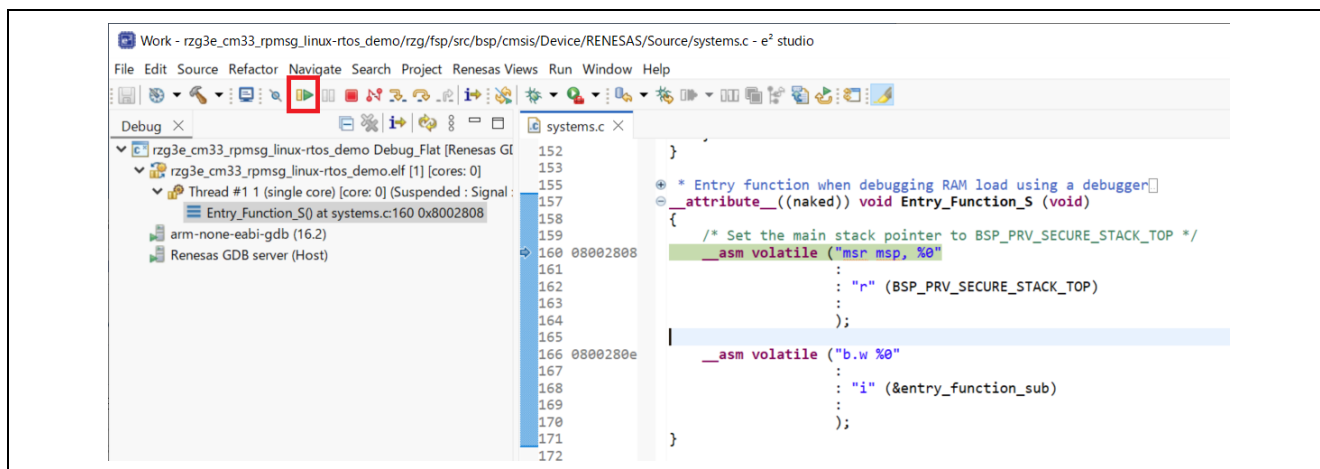

Figure 4-7. How to start to debug Sample Project (1)
- When **Debug Perspective** is opened, Program Counter (PC) should be located at the top of **Entry_Function_S**. Then, press the button shown in Figure 4.7.